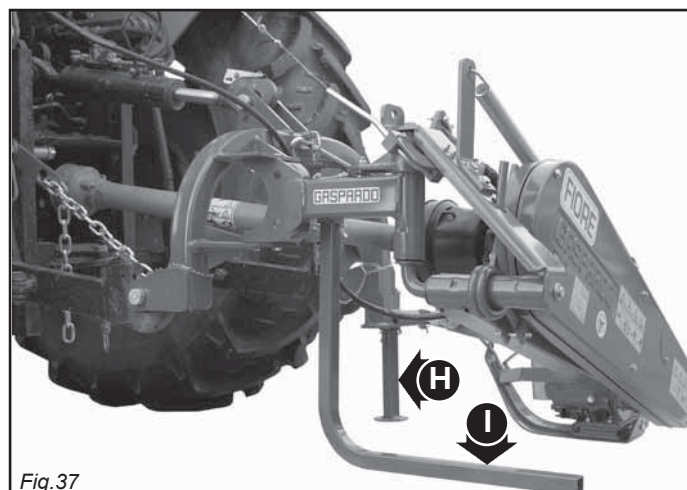

Fig.37
- **Lastly, store the implement in a dry place where it cannot be tampered with by unauthorized persons; the mowing machine must be set-up on flat and compact ground, supported by the relative bearing struts (H-I, Fig. 37).**